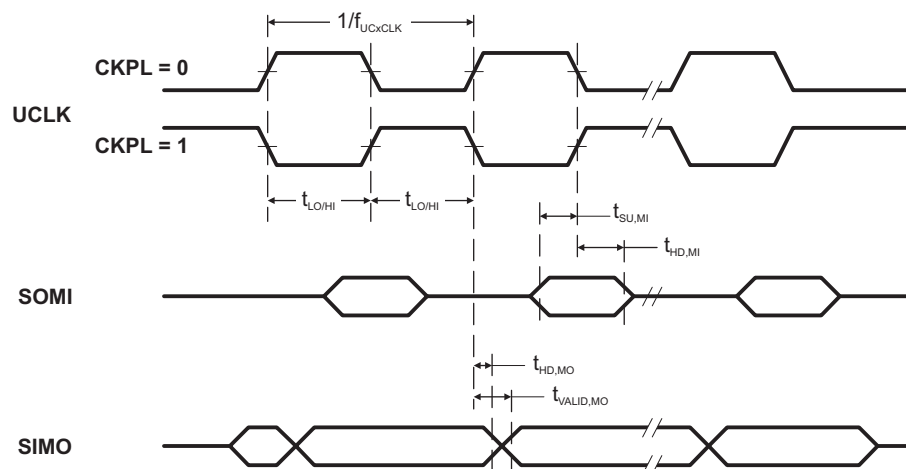
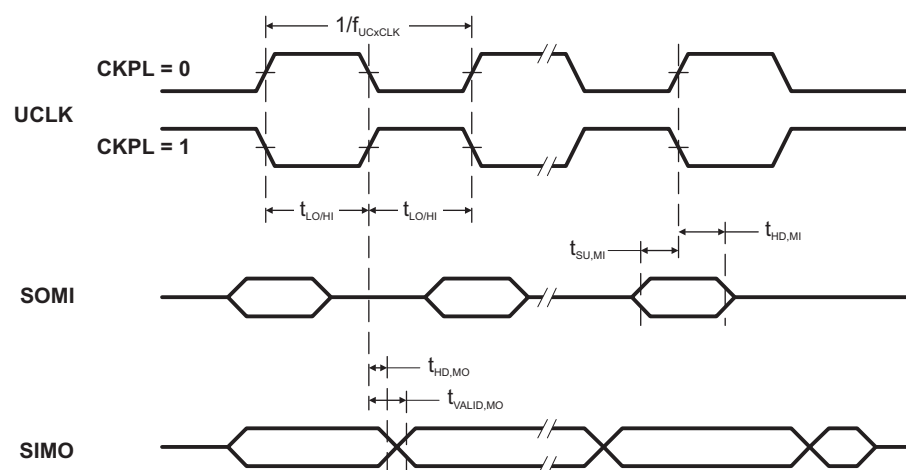

Figure 7. SPI Master Mode, CKPH = 0
Figure 8. SPI Master Mode, CKPH = 1
(see Note ⁽¹⁾, Figure 7 and Figure 8)
(2) Specifies the time to drive the next valid data to the SIMO output after the output changing UCLK clock edge. Refer to the timing diagrams in Figure 7 and Figure 8.
(3) Specifies how long data on the SIMO output is valid after the output changing UCLK clock edge. Negative values indicate that the data on the SIMO output can become invalid before the output changing clock edge observed on UCLK. Refer to the timing diagrams in Figure 7 and Figure 8.
(2) Specifies the time to drive the next valid data to the SOMI output after the output changing UCLK clock edge. Refer to the timing diagrams in Figure 7 and Figure 8.
(3) Specifies how long data on the SOMI output is valid after the output changing UCLK clock edge. Refer to the timing diagrams in Figure 7 and Figure 8.